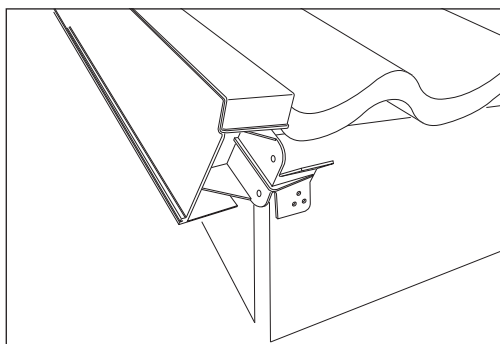

Fig 3 Mechanically fix starter unit
- 6 Secure the lower flange of the starter unit to the front of the fascia board using two no.6 x 20mm stainless steel screws (supplied). If necessary, the upper flange can be trimmed to avoid interfering with the underside of the eave tile (Fig 3).